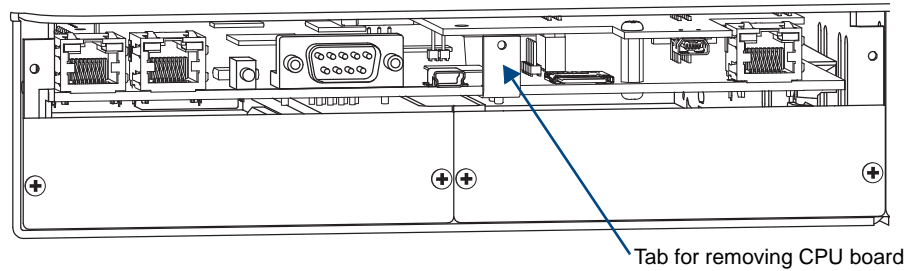

FIG. 112 Use tab to pull CPU board straight out
- Use the tab indicated in FIG. 112 to pull the CPU board straight out of the enclosure.